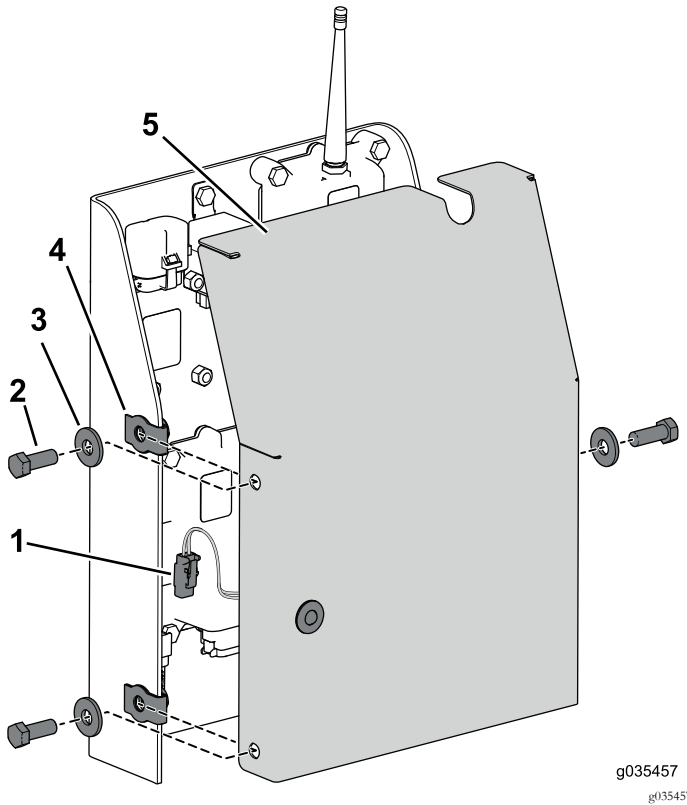

Figure 26
1. Connect the indicator light to the wire harness (Figure 26).
2. Use the bolt (3/8 x 1 inch) and nut that you removed earlier to secure cover to the compartment (Figure 26).